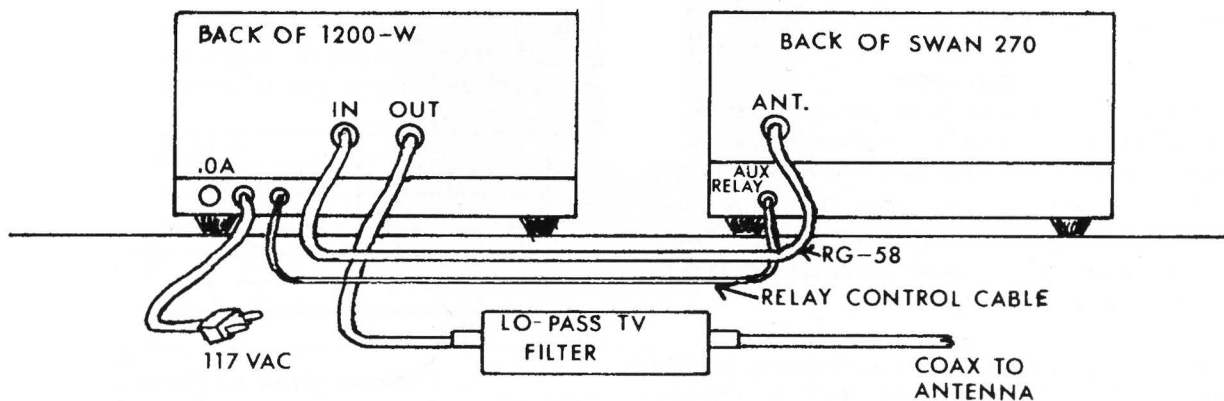

FIG. 3 REAR VIEW - TYPICAL INSTALLATION USING SWAN 270
- (a) Refer to the pictorial in Fig. 3 when making the installation. Connect a short length of coaxial cable (RG-58 or RG-8) from the transceiver or exciter to the coaxial input jack on the 1200-W. A PL-259 type connector is required at the amplifier end of the cable. This cable should be as short as practical and preferably not more than 5 feet long.
- ① Remove bottom of transceiver and install RCA type phono jack on the back of the transceiver. Be sure to insulate the jack from the chassis.
- ② Locate Relay K1 and connect a wire from the +12 volt side of the relay coil to the center conductor of the phono jack.
- ③ Connect another wire from the other side of the relay coil to the common side of the phono jack.
- ④ By-pass both terminals of the phono jack with .01 mf disc capacitors. (TVI suppression)
- ⑤ Install phono plug from 1200-W into phono jack on transceiver for relay control of the amplifier.